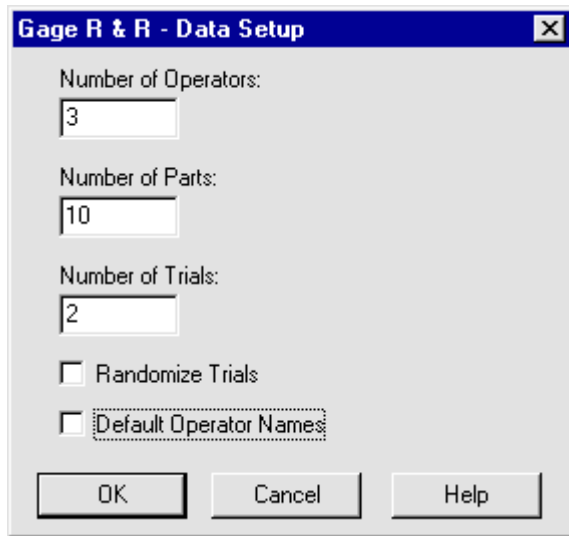

Figure 3-1. Completed Gage R&R Data Setup Dialog Box
2. Type **10** in the Number of Parts text box; leave the Randomize Trials check box blank; click the Default Operator Names text box to deselect that check box (see Figure 3-1).